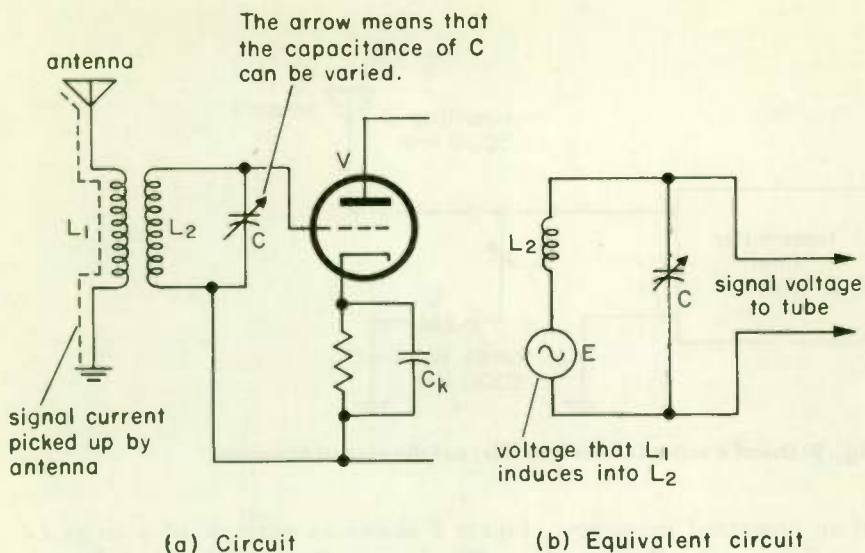

Fig. 8 A practical tuned circuit and its equivalent circuit.
As our first example we will show how the LC circuit in Fig. 8(a) selects the signal that is desired from the many signals at different frequencies picked up by the antenna and boosts the voltage of that signal up to a much higher value at the grid of tube V .
1. Refer to Fig. 8. If you want to receive a signal at a higher frequency than the frequency to which L_2C is tuned, you adjust C to a (higher) (lower) value of capacitance.
2. Refer to Fig. 8. Instead of using a variable capacitor you could use a variable (a) _____ because it does not matter which component is varied to change the (b) _____ frequency of L_2C .
4. Refer to Fig. 8. The signal voltage applied to the tube (a) *is* (*is not*) equal to the induced voltage. The voltage applied to the tube is (b) _____ times the induced voltage. At frequencies above and below the point where X is 10 times greater than R , the voltage applied to the tube (c) *is* (*is not*) equal to the induced voltage.